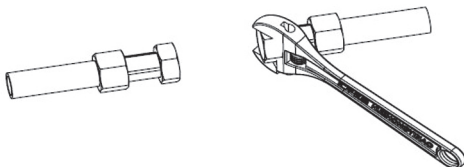

Fig.5-4 Meter Mounting Diagrammatic Sketch 4
- Screw the connecting fittings onto pipe ends (Fig. 5-4).